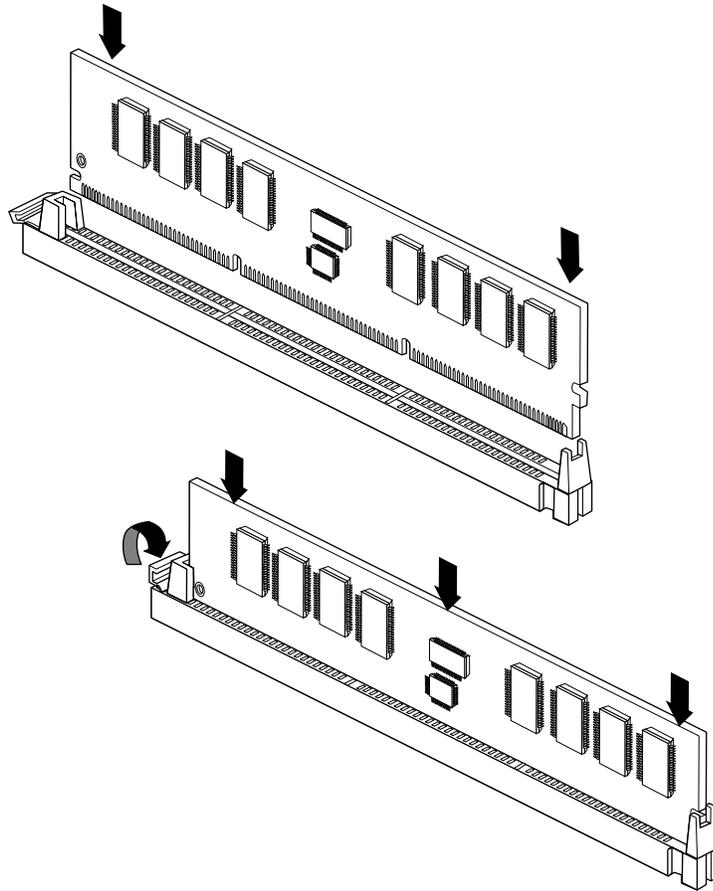

Figure 5-4 Installing a DIMM
- Figure 5-4 shows how to insert a DIMM into its socket.